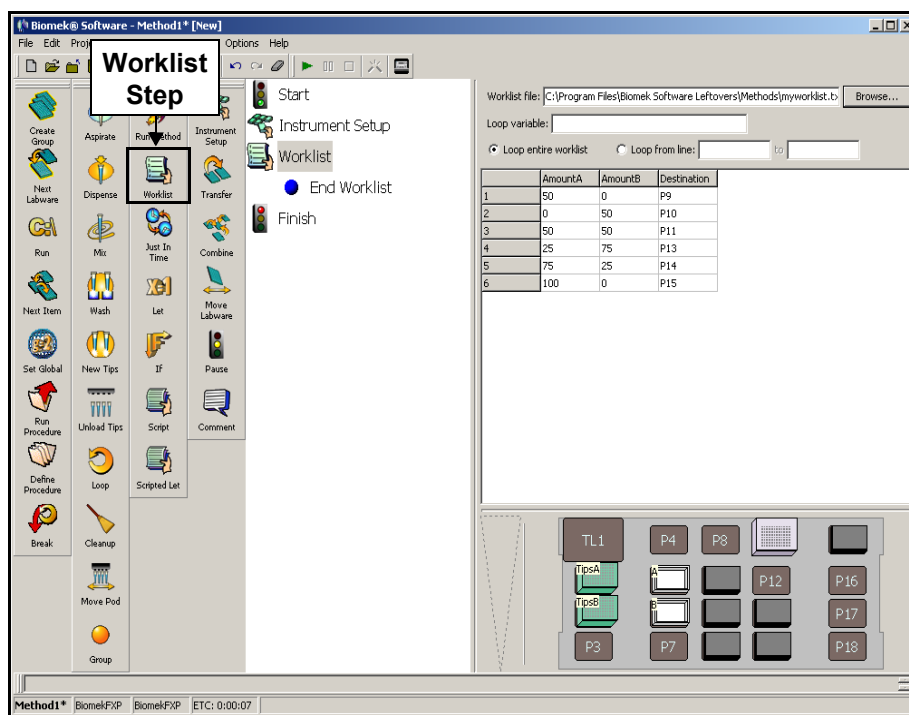

Figure 4-3. Worklist step with text file displayed
2. Drag and drop a **Worklist** step (Figure 4-3) into the Method View below the Instrument Setup step.
4. Make sure **Loop entire worklist** is selected. This ensures that all the values contained in the worklist are used. The Worklist step configuration should look like Figure 4-3.